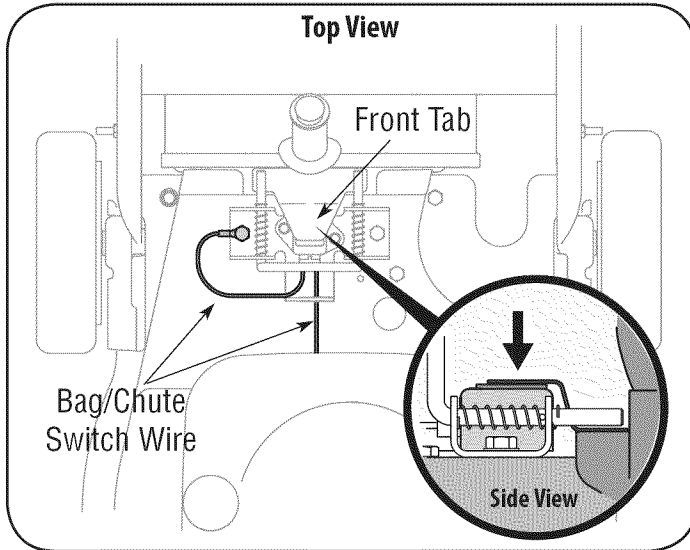

Figure 11
2. The bag/chute switch button must be fully depressed by the tip of front tab on bag handle or blower chute for engine to start. See Figure 11.
3. Make sure bag/chute switch wire is connected to engine and grounded to mounting bracket. See Figure 11.